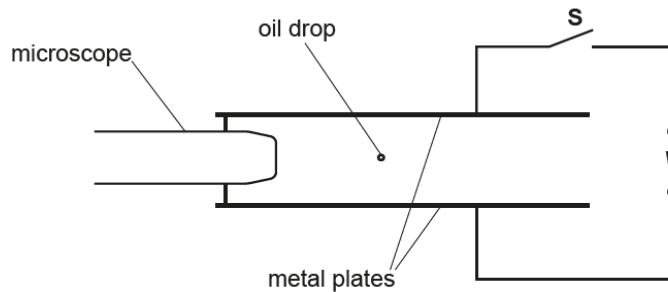

Fig. 3
- 3 In 1917 Robert Millikan investigated the motion of tiny oil drops in an electric field and used this to determine the charge on the electron. He sprayed tiny oil drops between two parallel metal plates connected to a high voltage power supply and observed their motion. The experiment was set up as shown in Fig. 3.